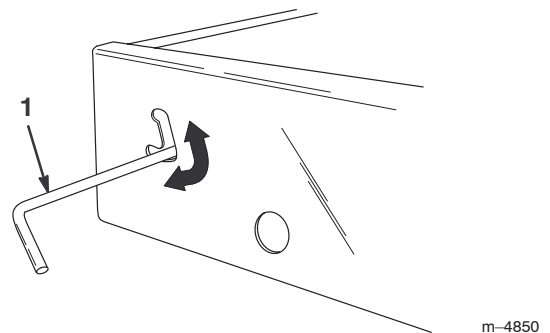

Figure 19
1. Slide the latch upward toward the top of the cutout in the bed frame (Fig. 19).
- To secure the bed tightly to the bed frame, move the latch to the lower section of the cutout (Fig. 19).